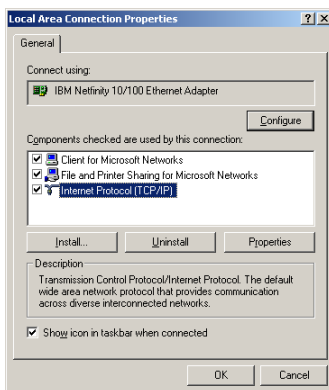

Figure 13: Local Area Connection Properties Window
5. Select the Internet Protocol (TCP/IP) and click the **Properties** Button (see Figure 13).